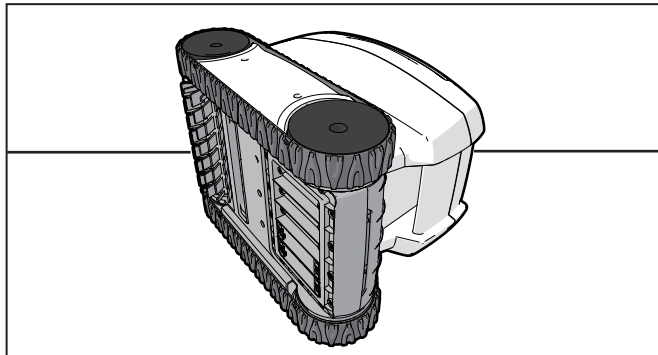

Figure 24. Stand Cleaner on its Side
1. Stand the cleaner on its side (Figure 24).